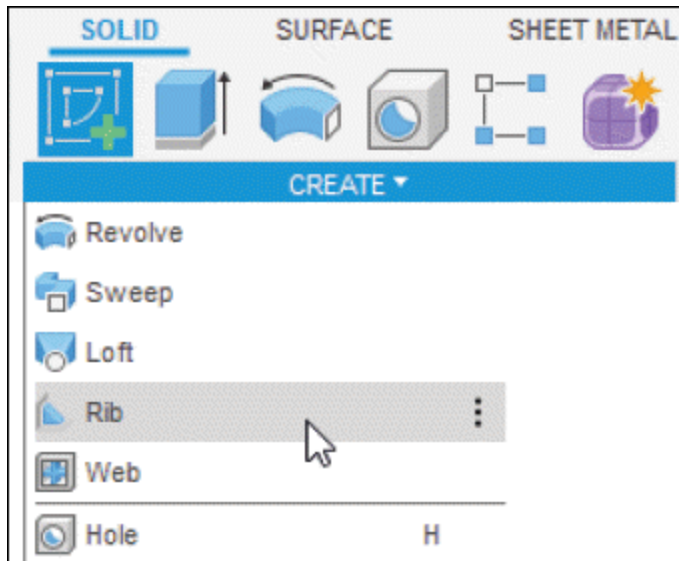
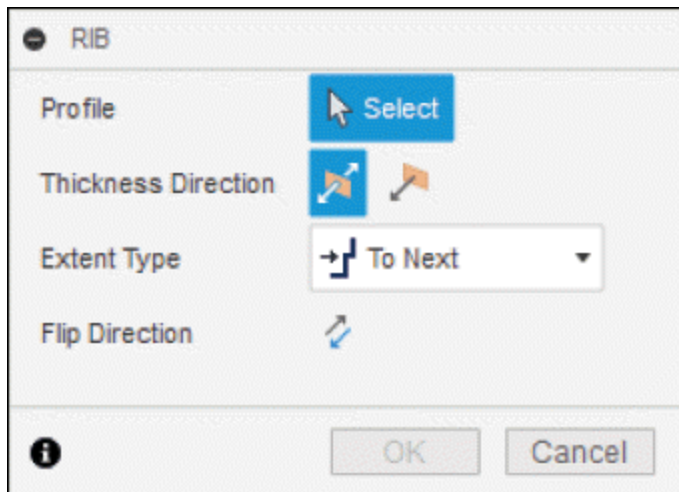

Figure-18. Rib tool
Figure-19. RIB dialog box
- Click on **Rib** tool from **CREATE** drop-down; refer to Figure-18 or right-click on the screen canvas and select **Rib** from **Marking menu** displayed. The **RIB** dialog box will be displayed; refer to Figure-19. Note that the curve